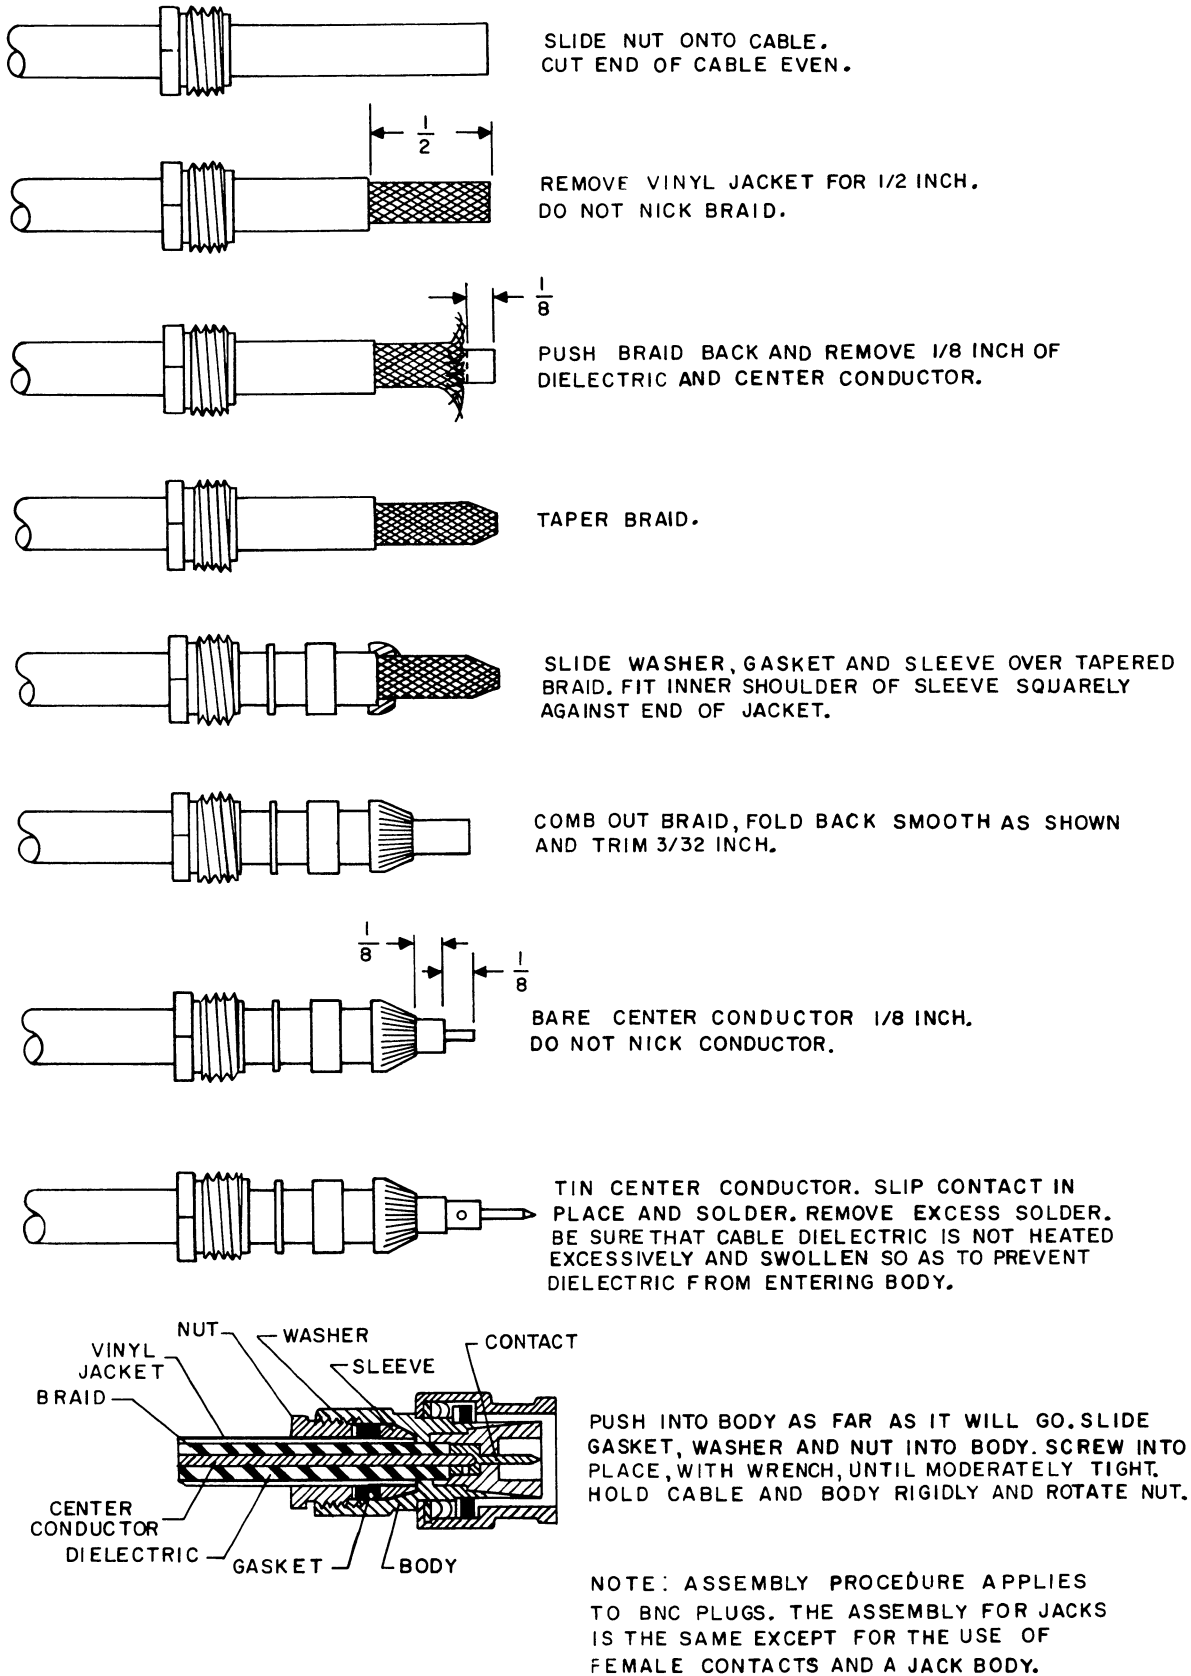

Figure 2-6. Cable Fabrication Diagram
b. Connect the BNC connector to the cable, refer to figure 2-6, and connect the antenna cable directly to J5 on the jack panel on the rear of the 32RS-1 chassis.
b. Fabricate a cable (use RG-58/U) to connect J5 on the rear panel of the 32RS-1 to the transmitter connection (TRANS.) on the 302E-2. Use one of the supplied right-angle BNC connectors for attachment to the 302E-2. Use a straight BNC connector for attachment to the 32RS-1. Refer to figure 2-6 for cable fabrication diagram.